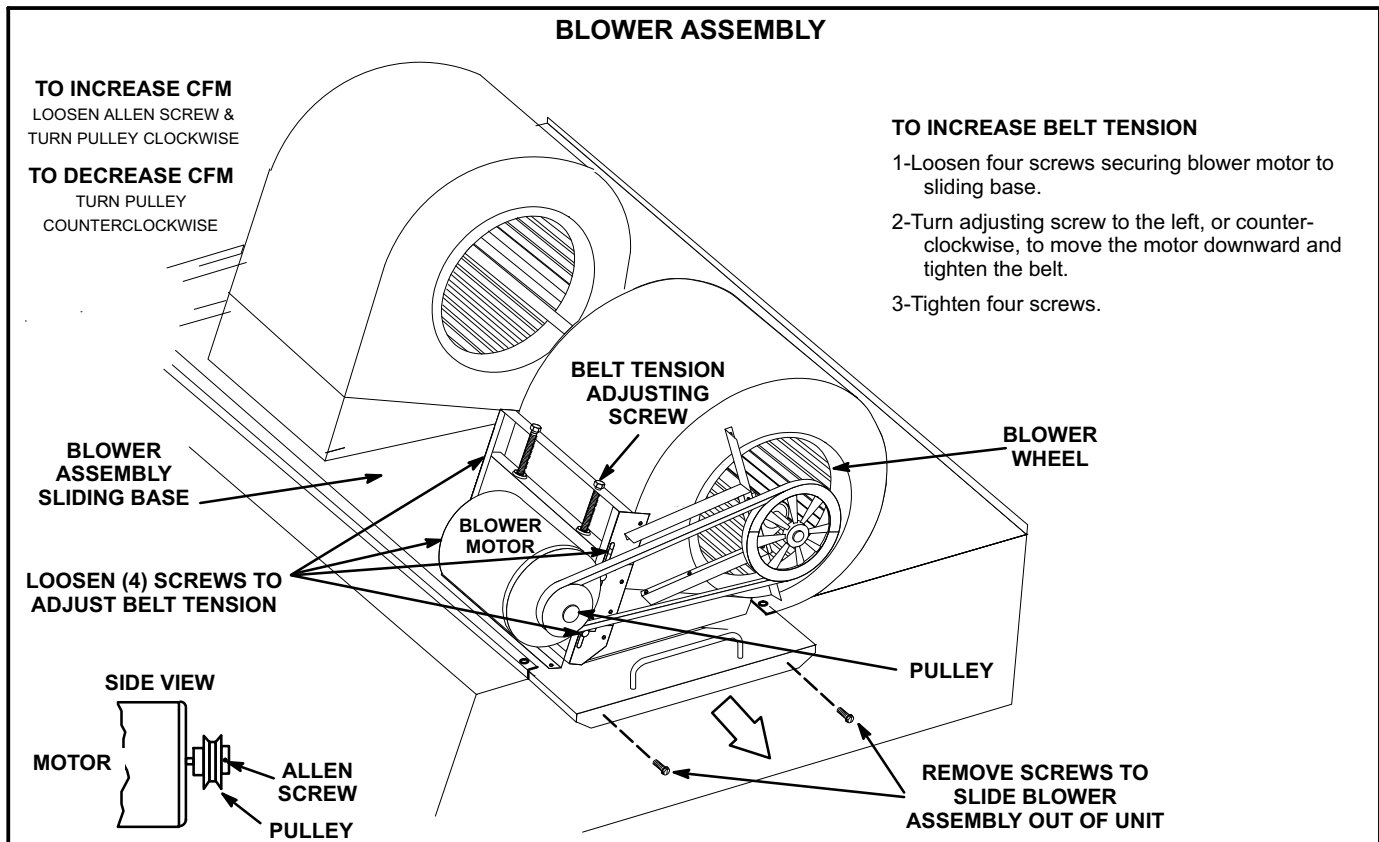

FIGURE 12
- 2- Remove screws on either side of blower assembly sliding base. See figure 12.
4- The blower RPM can be adjusted at the motor pulley. Loosen Allen screw and turn adjustable pulley clockwise to increase CFM. Turn counterclockwise to decrease CFM. See figure 12. Do not exceed minimum and maximum number of pulley turns as shown in table 3.
- 1- Loosen four screws securing blower motor to sliding base. See figure 12.